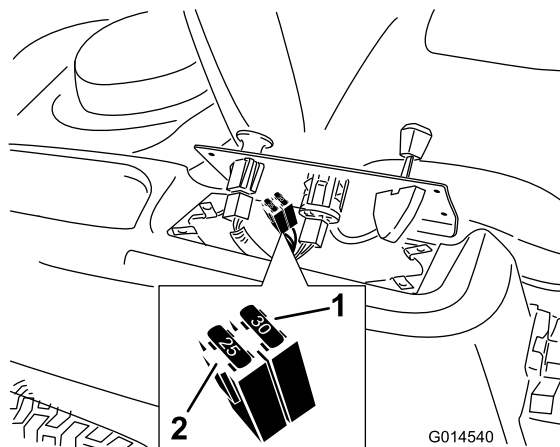

Figure 44
2. Lift the control pane up to access the main wire harness and fuse block (Figure 44).
3. To replace a fuse, pull out on the fuse to remove it (Figure 44).